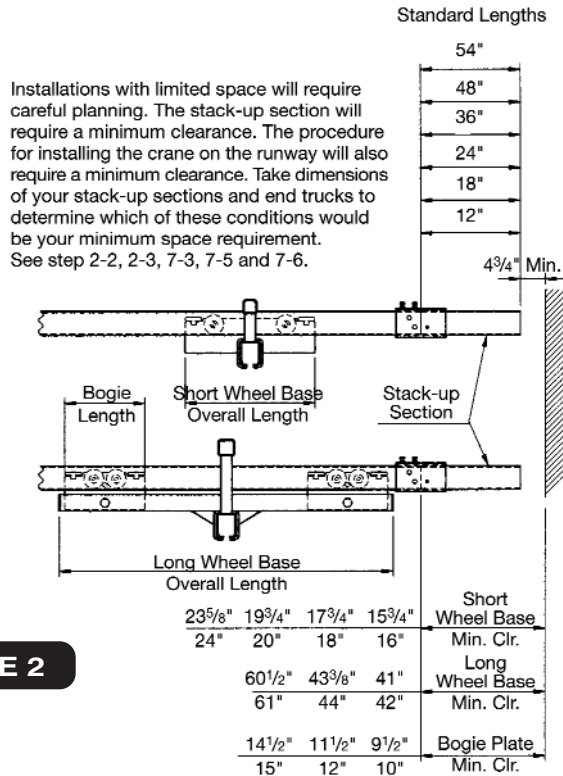
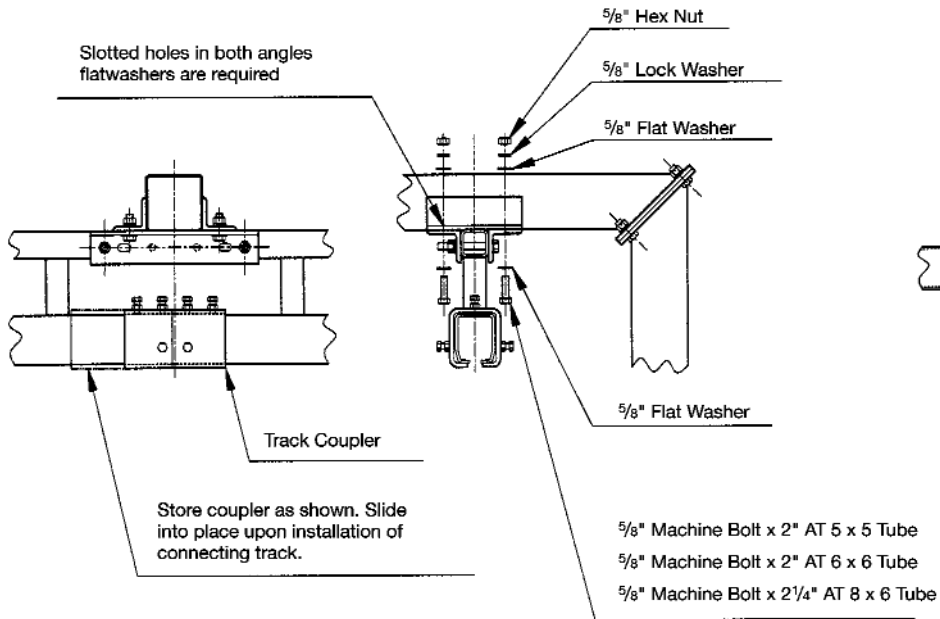

FIGURE 2
FIGURE 7
2. See *Figure 2* for minimum access clearance required for crane installation and/or removal. Applications with very limited space will need to utilize a long wheel base end truck (20 ETLs, 10 ETLs, 05 ETLs OR 02 ETLs). These end trucks can be assembled with the runway track in place.
3. If your system is powered (electric or air), determine which runway track will carry the power supply. Runways using festooning (for electric or air power) are usually furnished with a stack-up section that mounts on one end of one runway. Determine placement of the stack-up section and allow space to accommodate this. See *Figure 2* for minimum space required. The stack-up section can be installed after the crane. Either the stack-up section or the crane installation will determine the minimum clearance required at one end of the runway.
5. Align the runway track and set them to the proper span. The span of the crane is the center-to-center distance between the two tracks, which is equal to the overall length of the crane less 2'-0" (see *Figure 2*). Align one side first. Alignment should be maintained to $\frac{1}{8}$ inch in 25 feet (see *Figure 8*). Make use of the slotted holes provided on the clamp angles and the angle support brackets for making the adjustments. When done, tighten enough bolts to prevent the runway track from shifting as you continue working. Align the second side. Tighten the bolts likewise. Check the track alignment at the splice points and **make sure that the bottom flanges of both adjoining tracks are aligned laterally and vertically** (see *Figure 7*). This joint must be flush to provide for a smooth transition. Use the top screws of the coupler to clamp down on the track and the screws on the side (do not over tighten) to make lateral adjustments. Make sure that all the screws are snug and then tighten the locking hex nuts on each screw. See chart on page 13 for torque setting.
3. The fixed end truck will go on the runway that will have the runway electrification (see *Figure 2*). Raise the crane and slide it into the runway track. Immediately install the runway end stops (½" diameter bolt, hex nut, lock washer and rubber bumper) and the stack-up section (see step 2-3). If the last sections of the runways have not been installed (refer to step 2-1), securely tie off the crane at both ends to the runway. Check that the fixed end truck remains square to the bridge girder and readjust if necessary using the set screws on the end truck coupler. Re-tighten as per step 6-2 above.